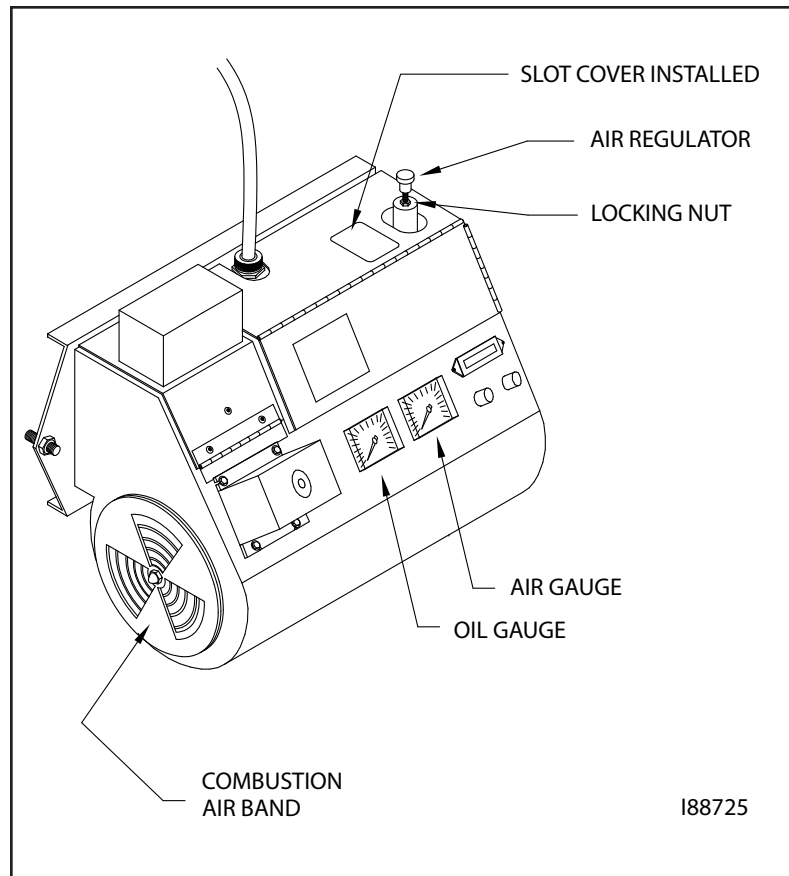

Figure 6A - Component Detail of the CB-551-H3 Burner (CB-525-S2 Burner is similar)
4. Refer to Figure 6A. Loosen the locking nut on the air regulator.
- Refer to Figure 6A to identify the combustion air band location on the burner.